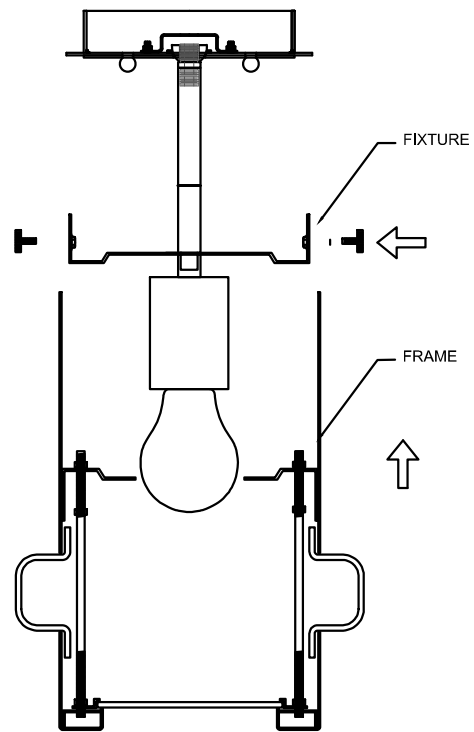

FIGURE-04
- Install the frame to the fixture using thumbscrews. (See Figure -04)